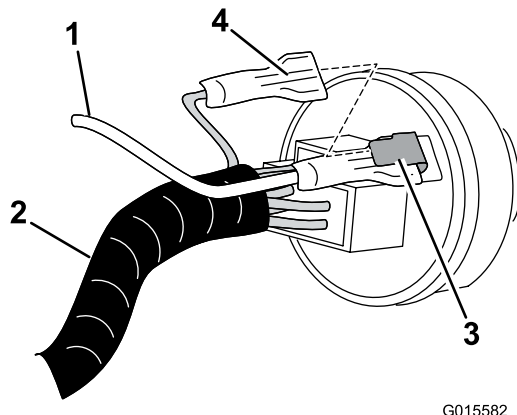

Figure 8
7. Install the piggy back terminal to the open terminal and install wire removed previously over it (Figure 8).